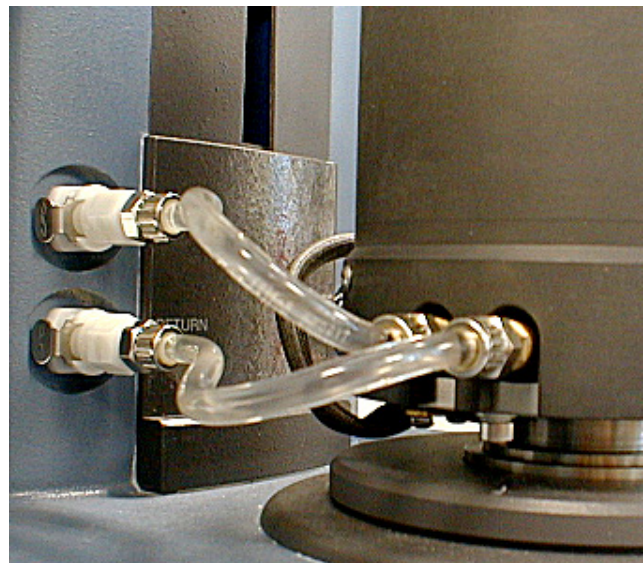

Figure 5.12
4. Connect the power and fluid cables as shown in Figure 5.12 to the right.